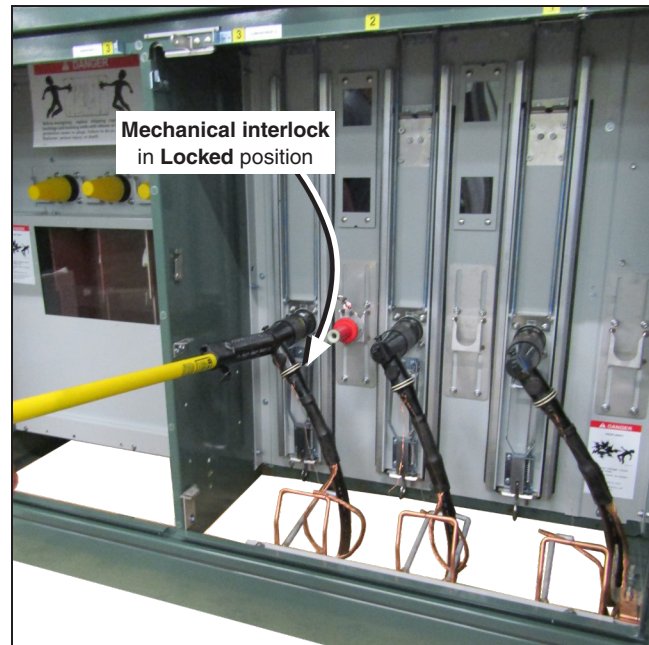

Figure 14. Removing the loadbreak elbow interrupts any load through the fuse to be removed.
STEP 2. Using a shotgun stick, install a portable feedthru or standoff insulator on the parking stand directly above the cable guide of the elbow to be moved. This will ensure when the elbow is moved, the cable will not interfere with the TransFuser Mounting. Using the shotgun stick, and following the elbow manufacturer's instructions for loadbreak operation, remove the 200-ampere loadbreak elbow (thus interrupting any load through the fuse to be removed), and move the elbow to the portable feedthru or standoff insulator. See Figure 14.